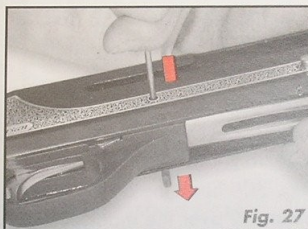

Fig. 27
13. Push the trigger guard pin out of the stock/receiver assembly using an appropriate punch (Fig. 27).
3. Push the trigger guard pin into the receiver from the right or left, until it is flush with the outside of the receiver (Fig. 27).